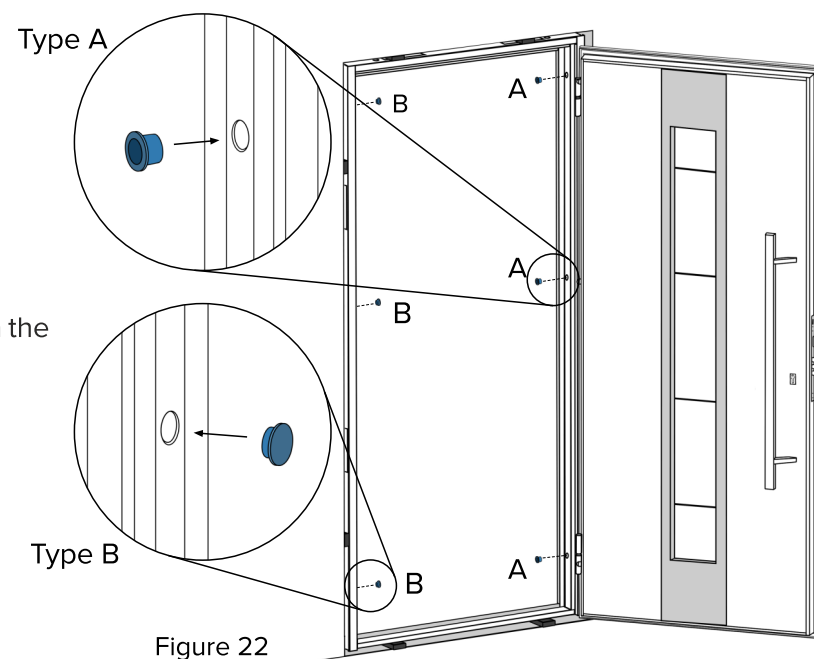

Figure 22
3.19. After the final installation and acceptance of the door unit, mounting holes shall be closed with the included plugs (figure 22).